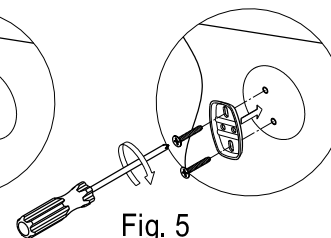

Fig. 5
- Step 5. Screw the mounting plate(with the lips facing out) to the wall with the mounting screws (fig 5).